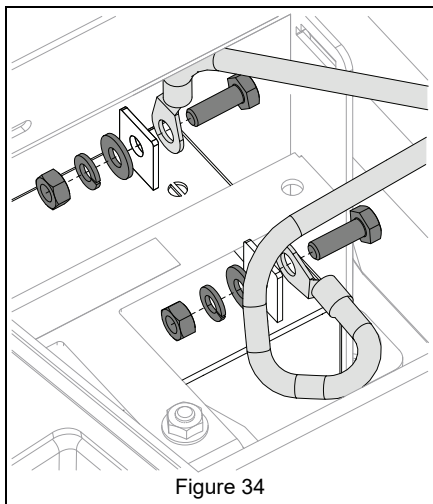

Figure 34
3. Disconnect the negative cable and then the positive cable from the battery. See Figure 34.